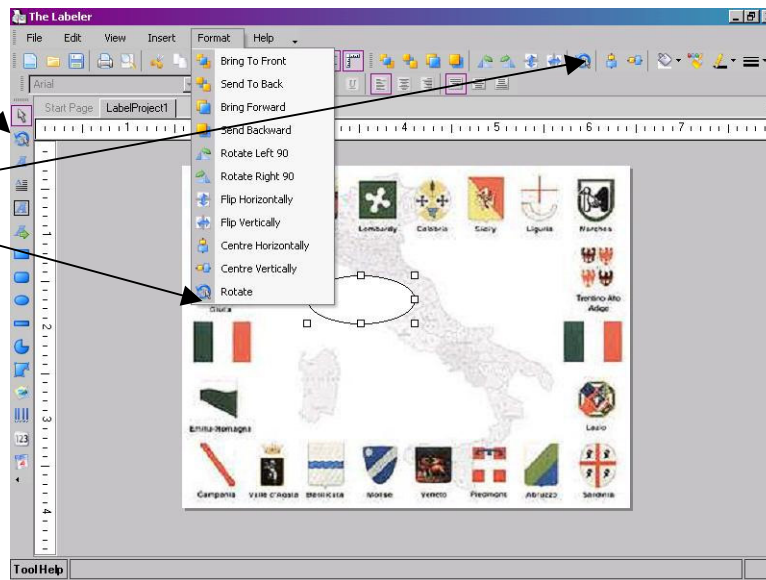

Figure 4.3.1.1: Select the rotating tool
1. Select the rotating  tool from the tool bar, from the formatting toolbar or from the format menu (see Figure 4.3.1.1).